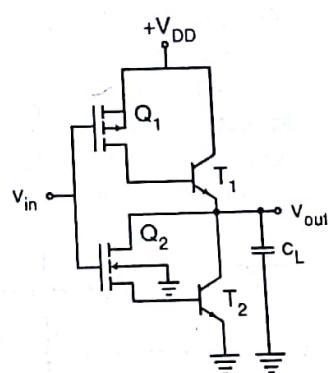

Fig. 4.29 Basic BiCMOS inverter
**Basic BiCMOS inverter** The circuit of a basic BiCMOS inverter is shown in Fig. 4.29. The complementary pair of PMOSFET ( $Q_1$ ) and NMOSFET ( $Q_2$ ) form the inverter, and the pair of matching NPN transistors  $T_1$  and  $T_2$  form the active pull-up / pull-down driver stage. The circuit operation is analysed for a capacitive load as explained below.